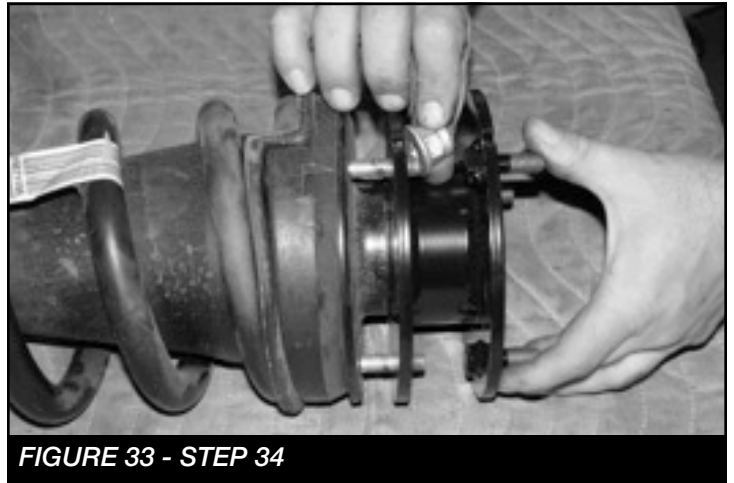

FIGURE 33 - STEP 34
34. Install the FT20560BK coil spacer using the factory nuts and torque to 30 ft-lbs. **SEE FIGURE 33**